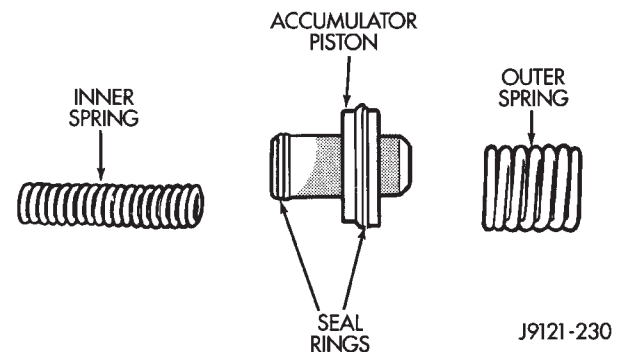

Fig. 48 Accumulator Piston Components
(4) Check condition of seals on accumulator piston (Fig. 48). Install new piston seals, if necessary.
(5) Place valve body manual lever in low (1 position) so ball on park lock rod will be easier to install in sprag.